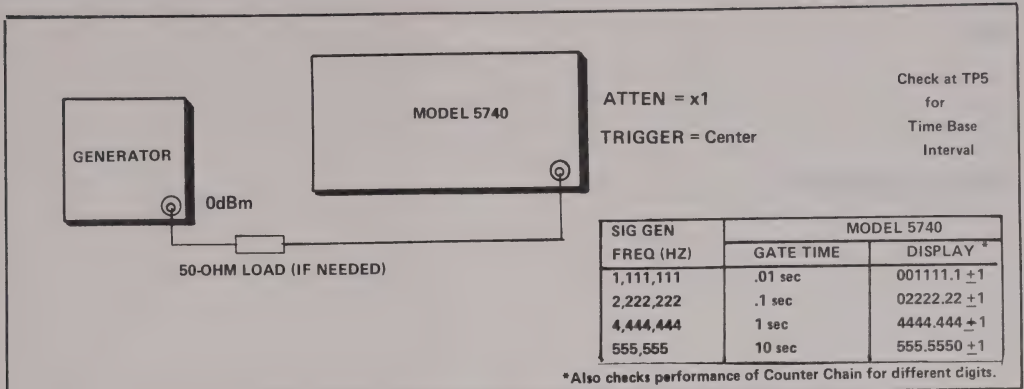

Fig. 4-7. Programmable Divider Test Sequence
4.9 PROGRAMMABLE DIVIDER AND DECIMAL POINT CONTROL CHECK (FIG. 4-7)
Rotary Switch (S3): See Figure 4-7
See Figure 4-7
Position Rotary Switch (S3) and vary the Signal Generator output as shown for each step in Figure 4-7. Verify output reading according to value in table of Figure 4-7. Observe output at TP5 with